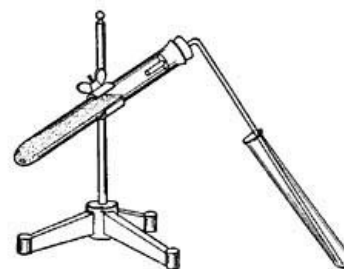

FIG. 24.—Making carbon dioxide from marble and hydrochloric acid. [56]
**49. How to Obtain Carbon Dioxide.** There are several ways in which carbon dioxide can be produced commercially, but for laboratory use the simplest is to mix in a test tube powdered marble, or chalk, and hydrochloric acid, and to collect the effervescing gas as shown in Figure 24. The substance which remains in the test tube after the gas has passed off is a solution of a salt and water. From a mixture of hydrochloric acid (HCl) and marble are obtained a salt, water, and carbon dioxide, the desired gas.